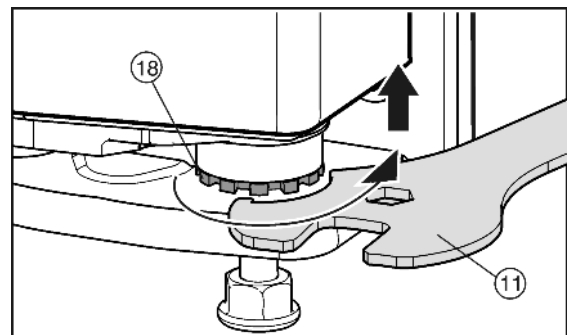

Fig. 13
- ▶ To lift the door, turn the bearing pin Fig. 13 (18) anticlockwise using the open-ended spanner Fig. 13 (11) included in the supply package. In the delivery condition, the bearing pin is completely screwed in.